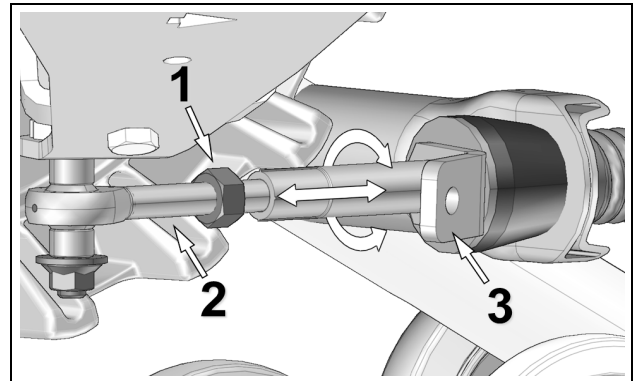

Figure 5
- Loosen jam nut (1). Adjust length of rod end (2) by rotating the steering limiter support plate on (3) the stabilizing arm. Use a 30 mm wrench to rotate support plate and obtain **270 mm** above the ground. Refer to Figure 5.